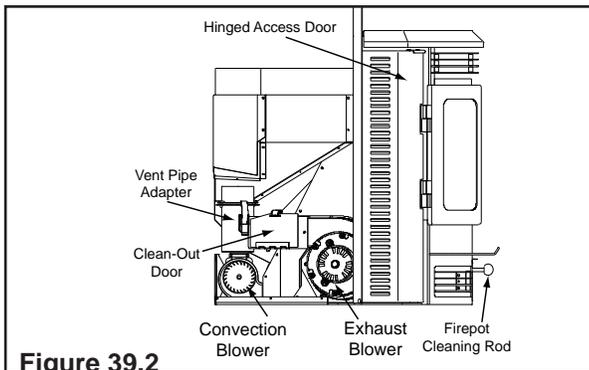

Figure 39.2
4. Clean the exhaust blower blades while the access cover on the left side is still removed. **Figure 39.2.**